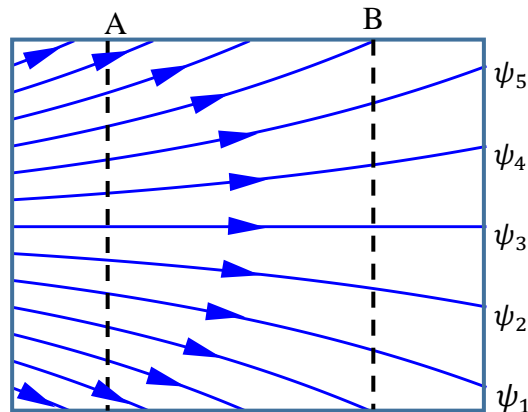

Figure 1[a]
1. [a] **What is significant about curves of constant stream function? Discuss the flow at cross section A and at section B based on the streamlines depicted in Figure 1[a].**